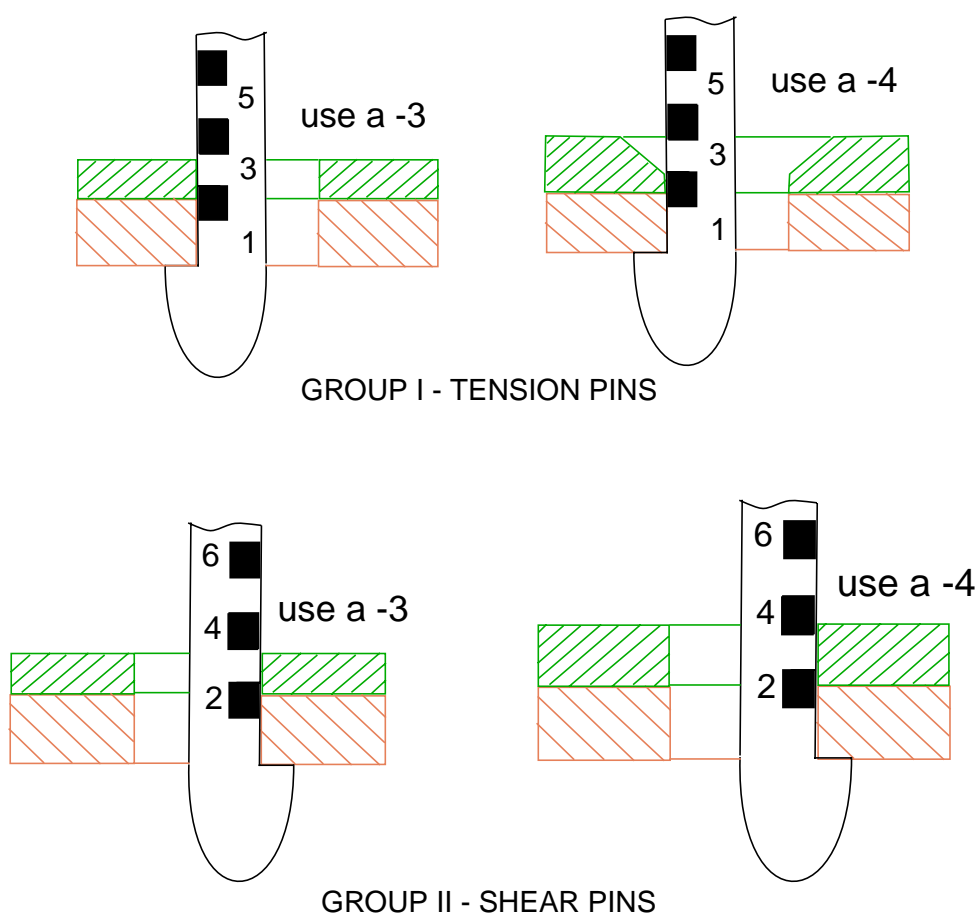

Figure 4 - Use of Huck No. 105093 Grip Scale
- 5.4.1 The fastener grip length specified on the engineering drawing, work order or assembly manual is only a reference length. To verify that the specified grip length is correct, ensure that the sheets are pulled up such that no gap exists and measure the hole depth using a lockbolt grip scale. The hole depth number shown on the grip scale corresponds to the lockbolt pin grip length dash number. Always read to the next higher number as shown in Figure 4 (i.e., if the reading is past the **end** of the -3 marking then use a -4 fastener). If a tapered sheet condition exists, use the grip length indicated for the thickest section. Refer to Table 6 for a listing of the grip length ranges for each grip dash number. If the required length of the lockbolts are not available, refer to Bombardier Toronto (de Havilland) MRB or Bombardier Toronto (de Havilland) delegated MRB for written authorization (e.g., via fastpath RNC) to use the next longer pin length and shim to the correct length using washers.